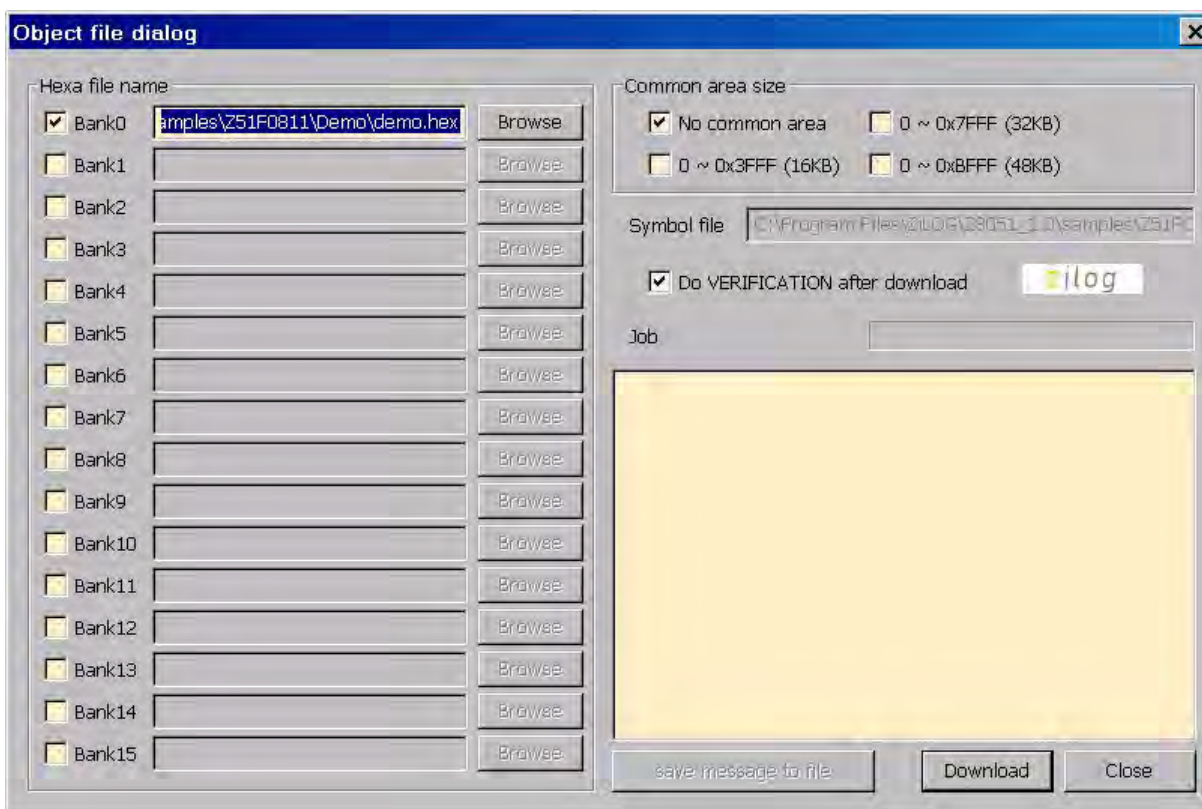

Figure 10. Object File Dialog
2. From the **File** menu of the Debugger, select **Load Hex**. The Object File dialog box appears, as shown in Figure 10.